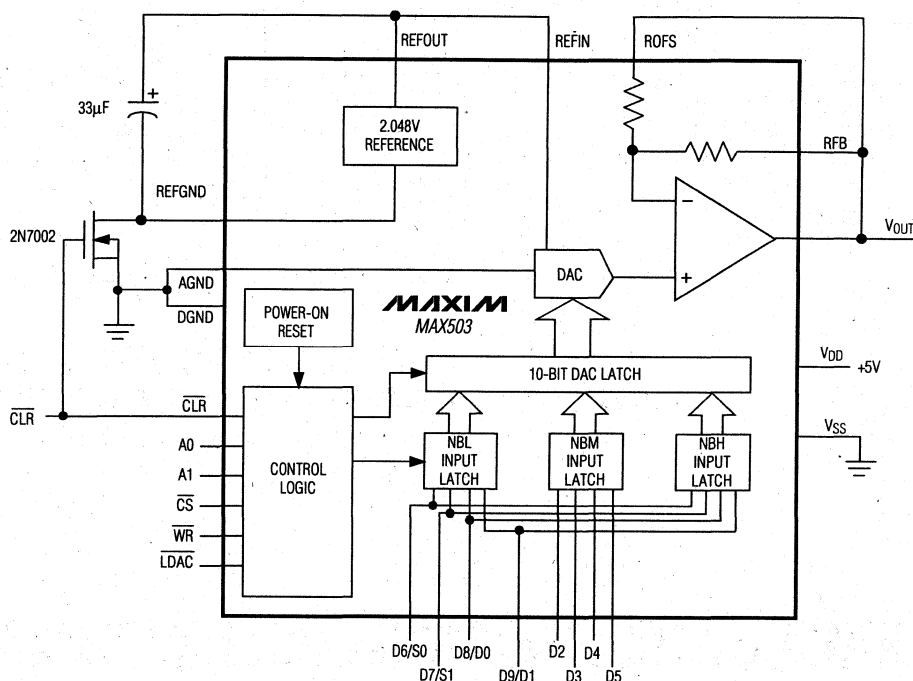

Figure 3. Low-Current Shutdown Mode
An additional 110µA of supply current can be saved when the internal reference is not used by connecting REFGND to V_{DD}. A low on-resistance N-channel FET, such as the 2N7002, can be used to turn off the internal reference to create a shutdown mode with minimum current drain (Figure 3). When $\overline{\text{CLR}}$ is high, the transistor pulls REFGND to AGND and the reference and DAC operate normally. When $\overline{\text{CLR}}$ goes low, REFGND is pulled up to V_{DD} and the reference is shut down. At the same time, $\overline{\text{CLR}}$ resets the DAC register to all 0s, and the op-amp output goes to 0V for unity-gain and G = 2 modes. This reduces the total single-supply operating current from 250µA (400µA max) to typically 40µA in shutdown mode.
In order to provide hardware and software compatibility with the 12-bit MAX530, the MAX503 employs a 12-bit digital interface. As shown in Figure 3, there is actually a 12-bit input latch, and therefore 12 bits of data should be written. The two least significant bits (S1 and S0) are sub-LSB, and must always be 0s. Designed to interface with 4-bit, 8-bit, and 16-bit microprocessors (μPs), the MAX503 uses 8 data pins and double-buffered logic inputs to load data as $4 + 4 + 4$ or $8 + 4$. The 12-bit DAC latch is updated simultaneously through the control signal LDAC. Signals A0, A1, WR, and CS select which input latches to update. The 12-bit data is broken down into nibbles (NB); NBL is the enable signal for the lowest 4 bits (S0, S1, D0, D1), NBM is the enable for the middle 4 bits, and NBH is the enable for the highest and most significant 4 bits. Table 2 lists the address decoding scheme.